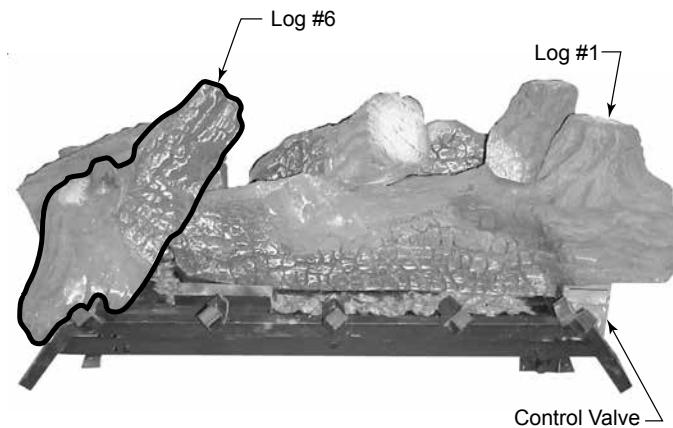

Figure 5.6 - Place Log #6
6. Place log #6 on pilot end of burner by aligning the 'V' notch in bottom of log with the filler bracket surrounding the pilot. Place the rectangular notch in the bottom of the log onto the rectangular protrusion on the end of log #1. *Figure 5.6*